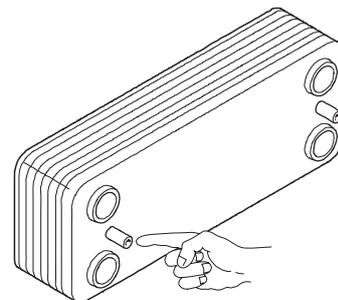

Figure 7.5
**Warning:** When reassembling the exchanger be sure to put the off center location/securing pin indicated in Figure 7.5 towards the left side of the boiler.